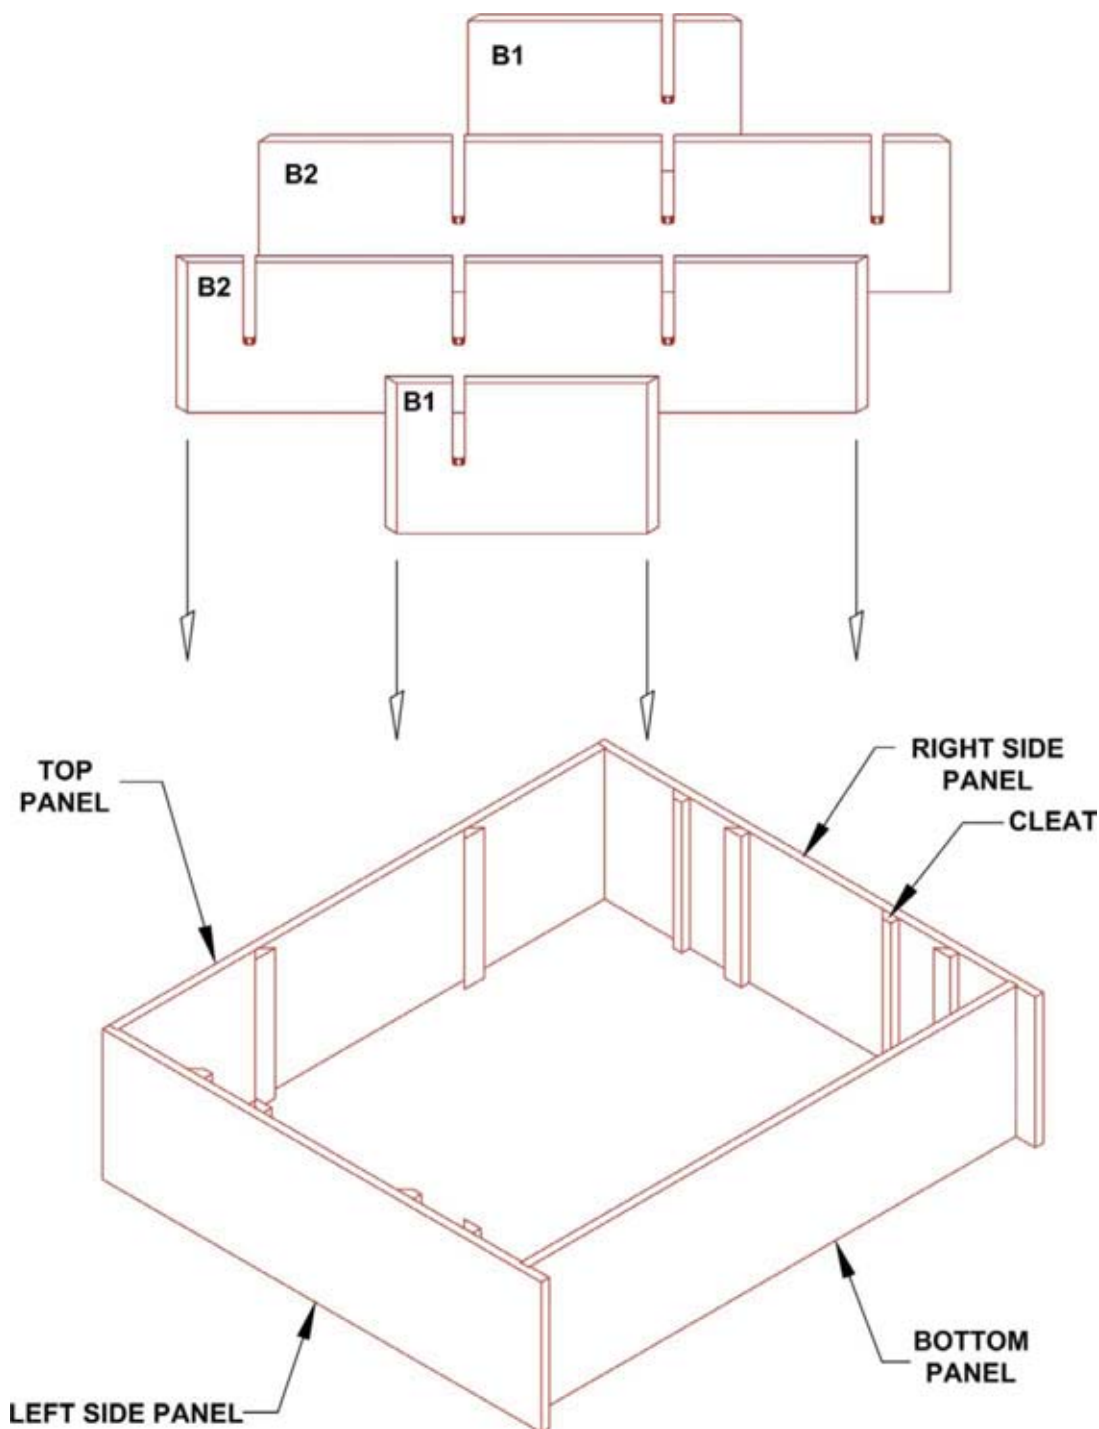

Figure 5
6. Locate panels labeled B1 (2) and B2 (2). In order to insure the panels are in the appropriate position, align the bottom of panels B1 and B2 with the right side cleats. All of these panels should be angled with the higher end on the left and lowest point on the right (**Figure 5**). Insert panel B1 in the upper right hand corner. Work your way down by inserting all remaining B2 panels and finish by inserting the second B1 panel into the lower left hand corner. (**Please note when installing the back diagonals that the dados (or slots) need to be facing the front of the bin.*)